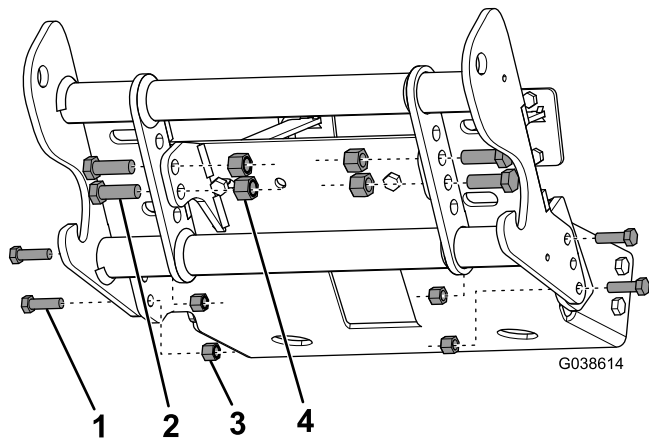

Figure 3
8. Mount the pushbeam to the plow skid plate using 4 bolts (1/2 inch), 4 locknuts (1/2 inch), 4 bolts (3/8 inch), and 4 locknuts (3/8 inch) as shown in Figure 3.